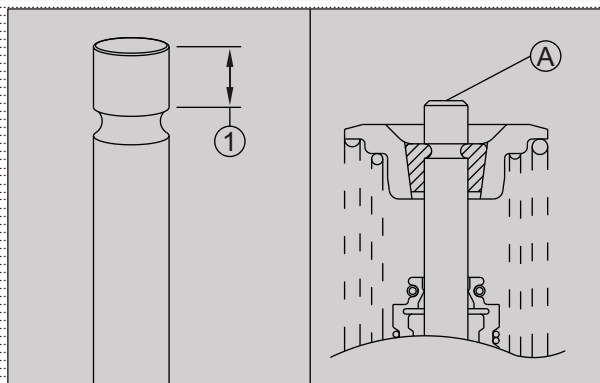

Fig. 3.144
- Inspect valve stem end face (A) for pitting and wear. If pitting or wear noticed, resurface the valve stem end, ensuring the length (1) is not reduced to less than 3.8 mm. If this end length turns less than 3.8 mm, the valve must be replaced with a new one. (Fig. 3.144)